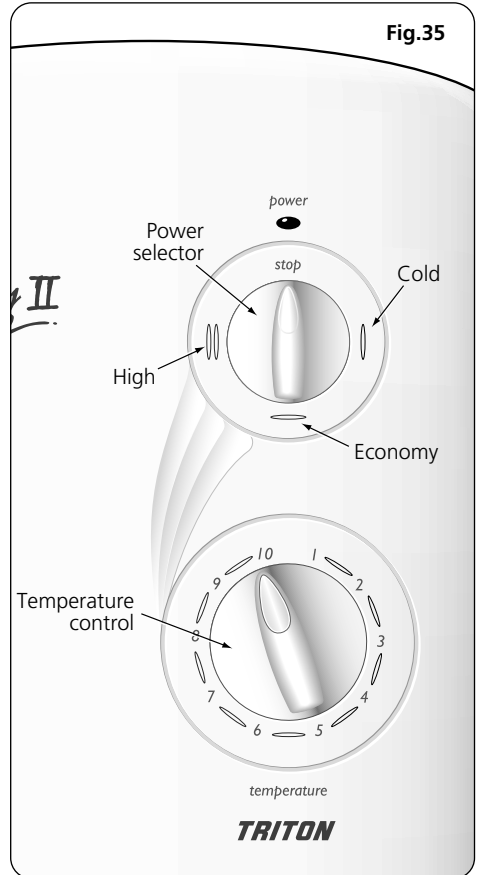

Fig.36
**OPERATING FUNCTIONS****Power on indicator (fig.36)**